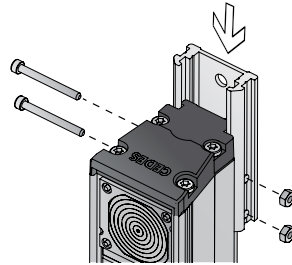

Figure 10: Fix the mounting bracket
- ▶ Insert two mounting brackets per edge into the grooves on the edge. Ensure the drillholes in the mounting bracket are positioned well past the end of the light curtain edge, to enable the mounting screws to be inserted (Figure 10).
- ▶ Insert two long screws per mounting bracket through the side holes provided and attach the hex nuts on the other side (Figure 10).